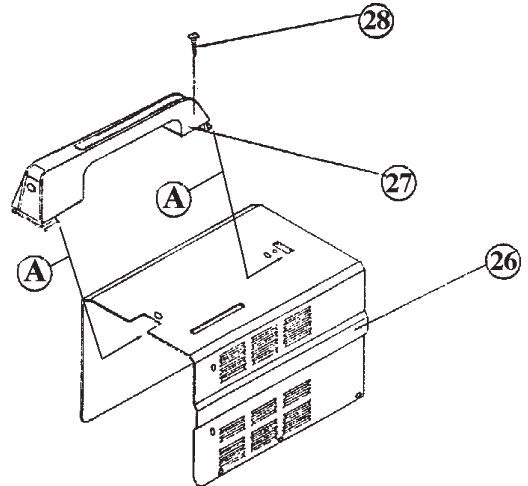

Figure 1. Handle Installation
1. Locate the HANDLE (27) and SCREW (28).
2. Slide the HANDLE (27) onto the top of the CASE (26), indexing the tabs on the underside of the HANDLE onto the slots on top of the CASE, as indicated by lines (A) in Figure 1.
3. Insert the SCREW (28) through the HANDLE (27), as shown in Figure 1, and tighten securely with a screwdriver.